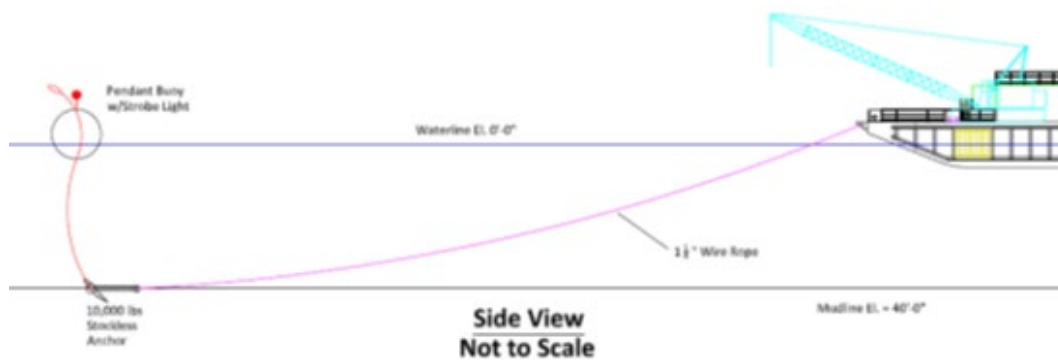

Figure 2
**METHODOLOGY:** The anchored construction barge will be mobilized to the work site and the 8-pt anchor pattern shall be set up on one side of the channel (see Figure 2 for